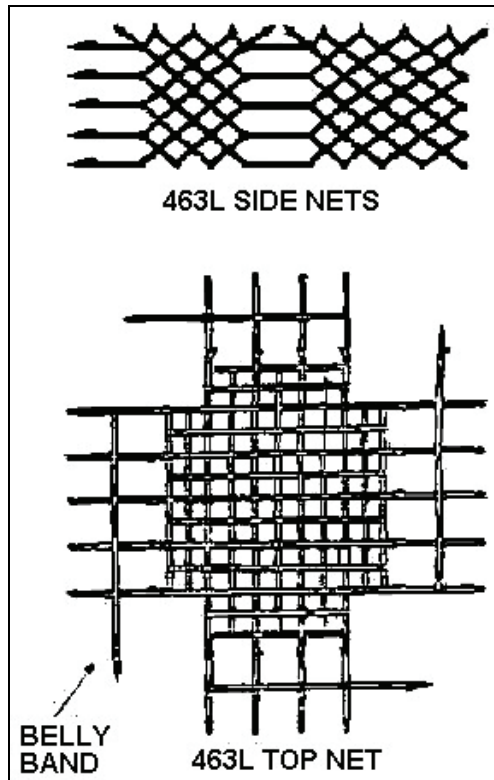

Figure 3-12. 463L Top and Side Nets
5. Inspect 463L top and side nets before storage (see Figure 3-12).